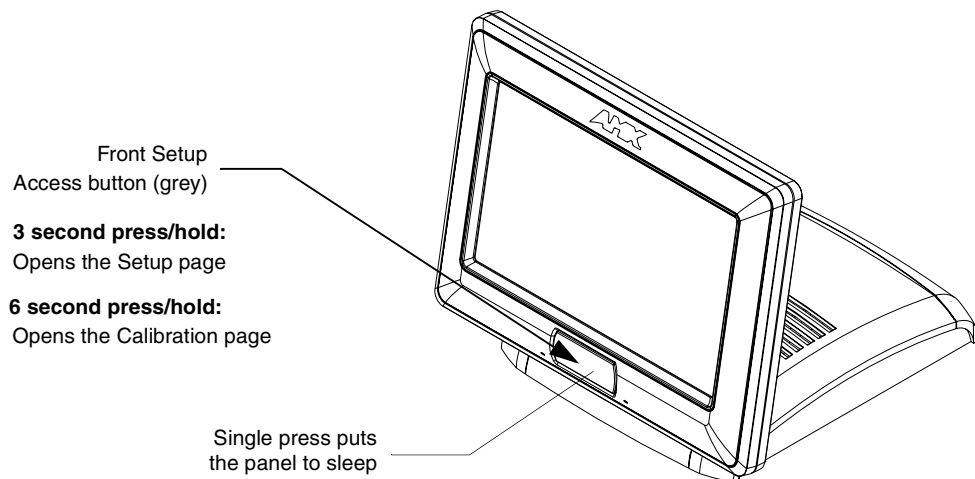
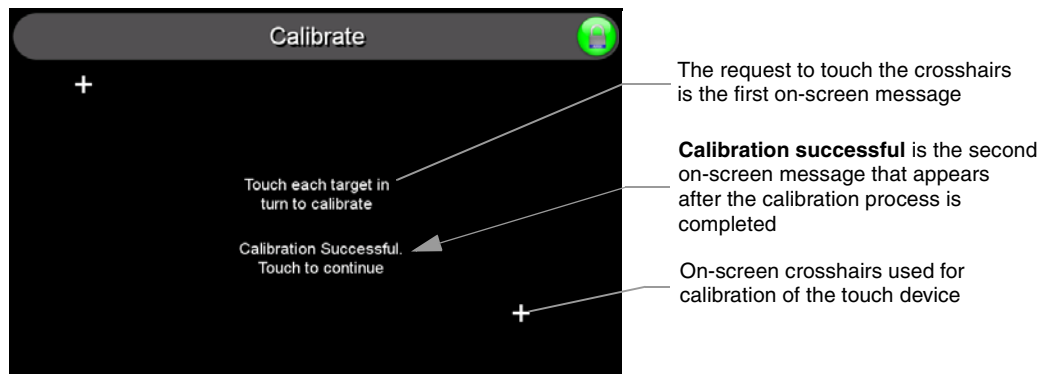

FIG. 46 Location of Front Setup Access button
FIG. 47 Touch Panel Calibration Screens
1. Press and hold the grey Front Setup Access button (FIG. 46) for **6 seconds** to pass-over the Setup page and access the Calibration setup page (FIG. 47).
2. Press the crosshairs (on the Calibration page) to set the calibration points on the LCD (FIG. 47).